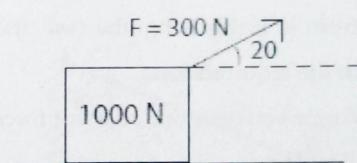

Fig 2.17
- 4) Draw the free-body diagram of the given fig 2.17